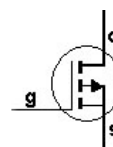

Fig.4.7.1
- What type of device is illustrated in Fig.4.7.1?